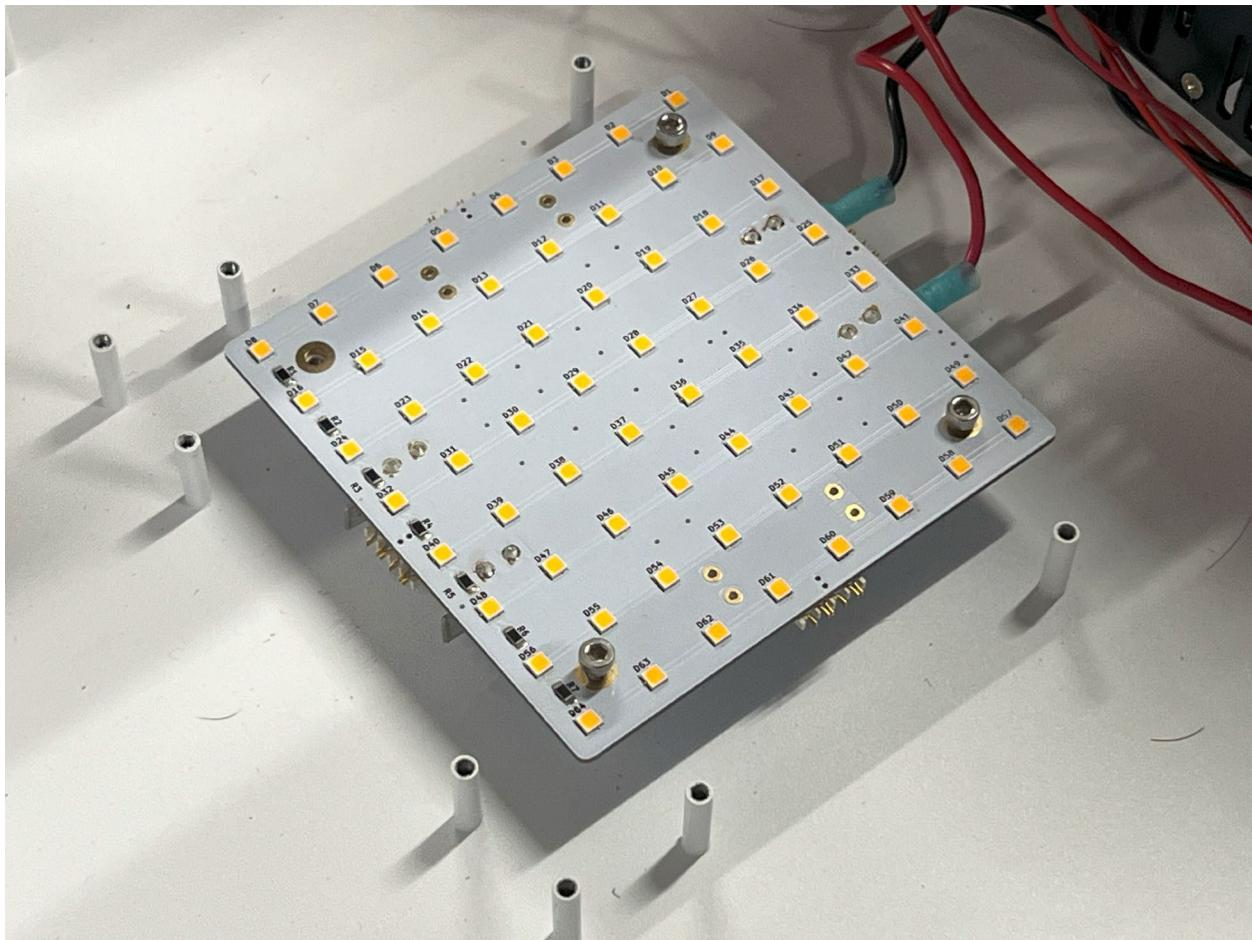

Figure 24: LED board for power input to the floor LEDs
1. Repeat Steps 3 and 4 of the previous section. This time, however, orient the PCB connector tabs so that they point towards the Bulkhead Panel, towards the back of the enclosure in the center. See Figure 24 for reference.